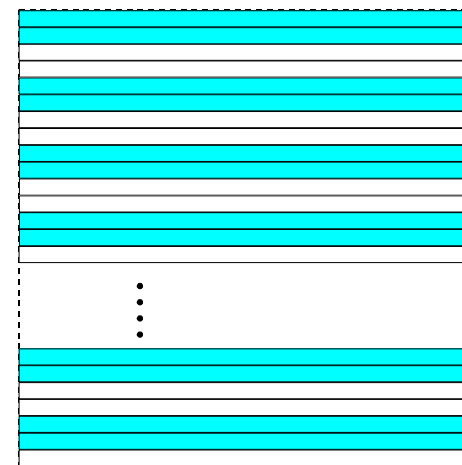

Fig. 85: Decimation of 2 (Color Cameras)
- 2 for color cameras: only every second pair of rows of the acquired frame will be transmitted out of the camera (Figure 85).